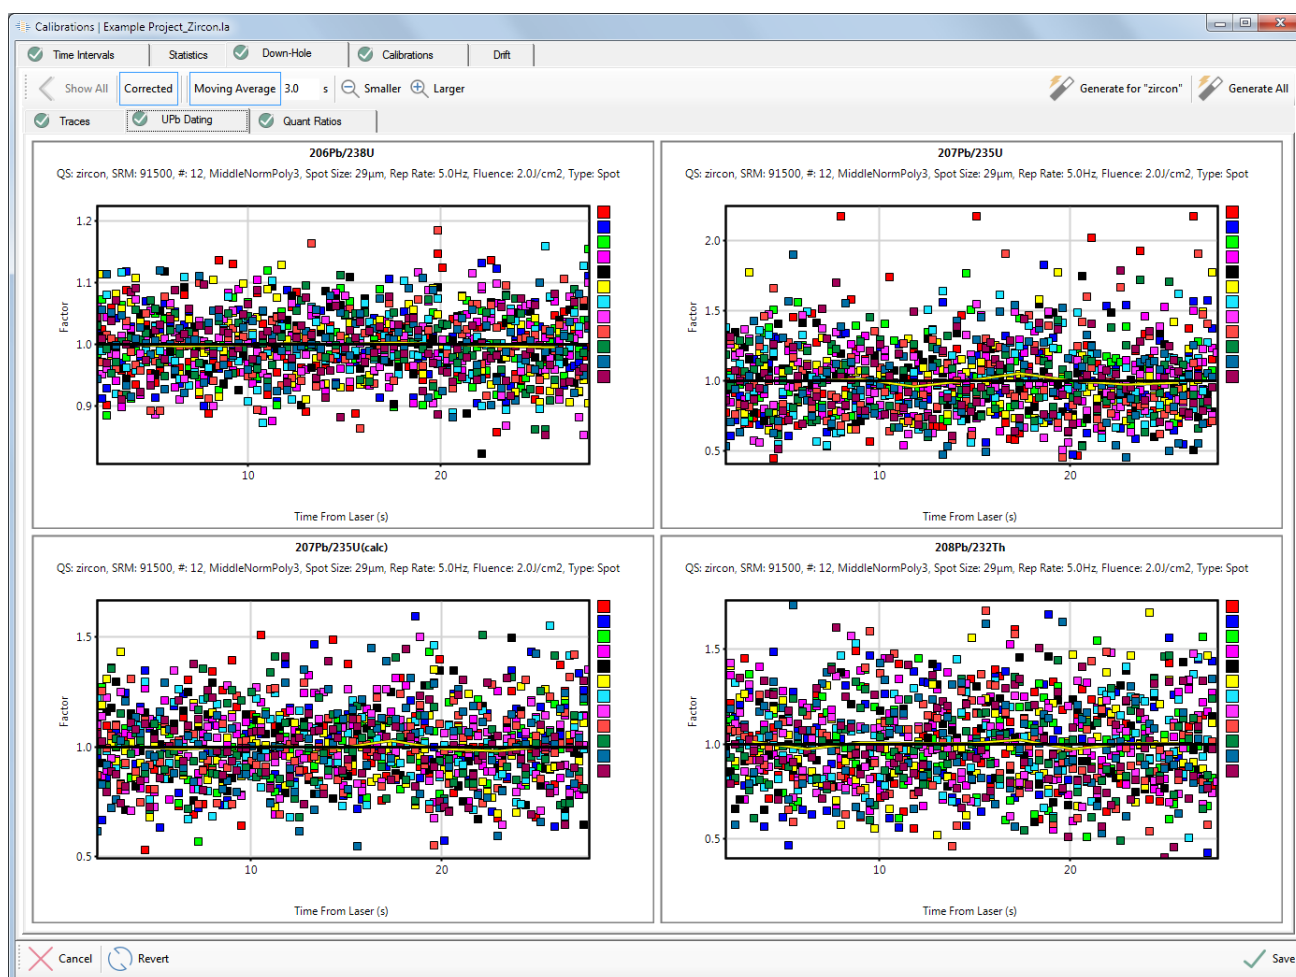

Figure 62 Corrected UPb data for the down-hole fractionation effects.
- Corrected – Show the corrected data, making the down-hole curve equal to 1 throughout the analysis. (Figure 62).